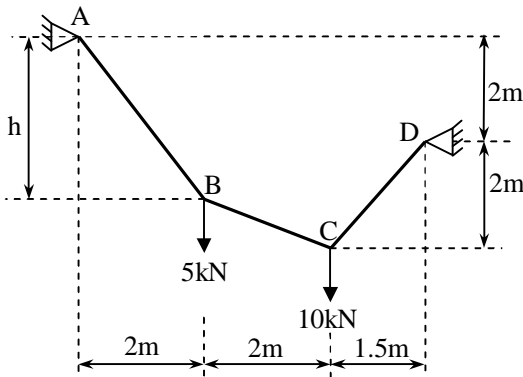

Fig. 6 [OR Q-3(a)]
- Q.3** (a) Determine the tension in each segment of the cable shown in **Fig. 6**. Also, find the dimension h . **07**